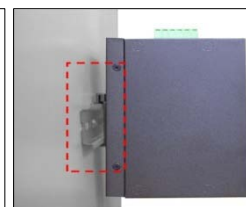

Figure 5
2. Lightly pull down the bracket on to the rail as shown below in Figure 5.